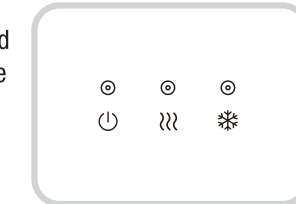

Fig.3
4. Push each water lever (hot and cold temperature) to ensure water is running through the unit. (Fig. 3)
6. Turn ON the hot water switch, wait a couple minutes and turn ON the cold water switch. Allow the unit to reach the minimum cold and maximum hot water temperatures. This will take approximately 35 to 60 minutes and the Indicator Light will turn OFF. (Fig. 3)